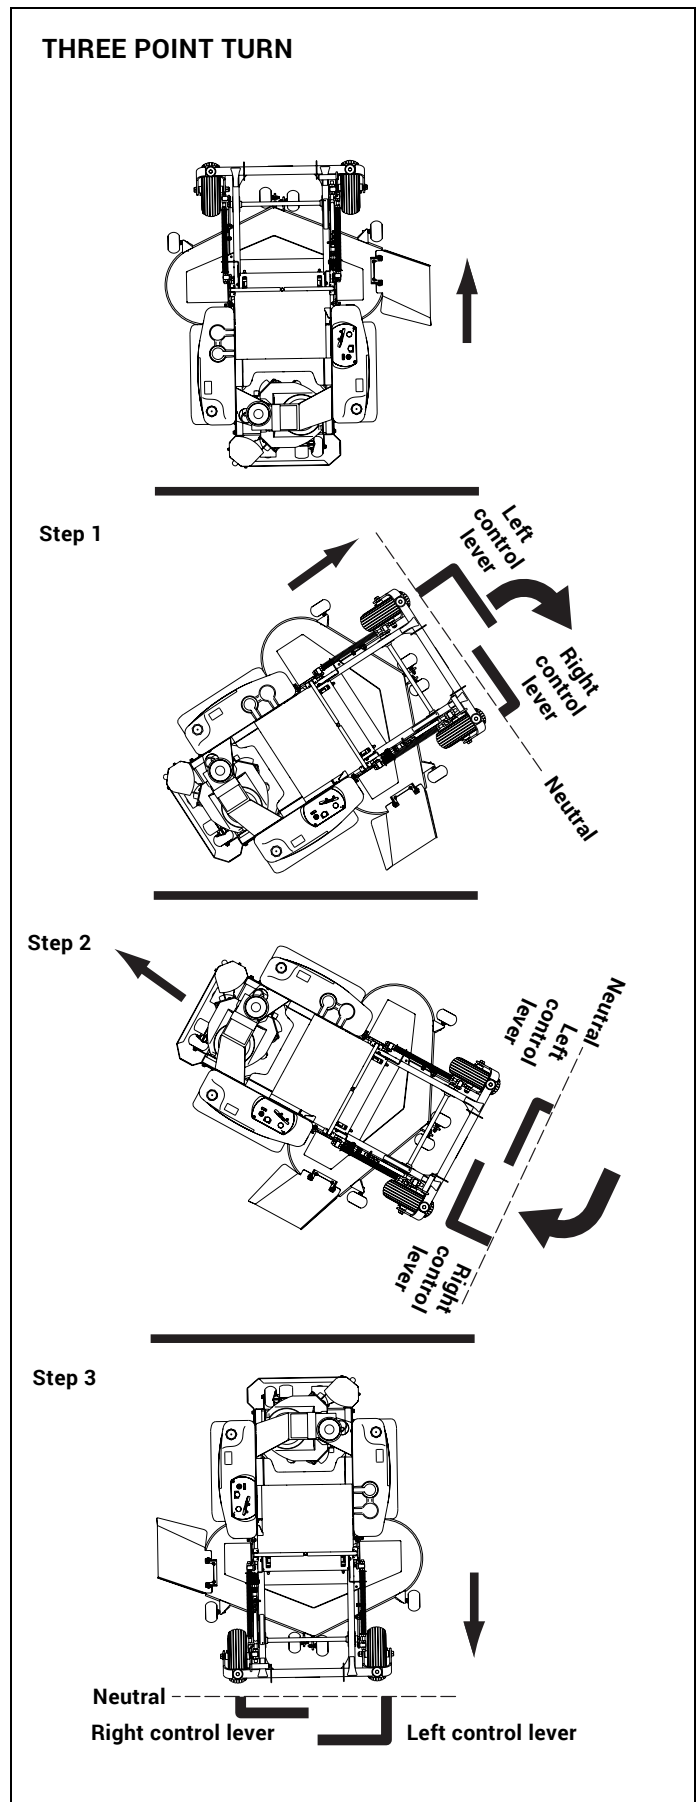

Figure 3-9
1. Move the left steering control lever farther forward from neutral than the right steering control lever and start the turn. Figure 3-9
2. Next, pull back on the steering control levers until they pass neutral and the machine starts to go rearward. Figure 3-9
3. Pull the right steering control lever farther rearward from neutral than the left steering control lever until the rear of the machine pivots around. Figure 3-9
4. Then, push the steering control levers forward until they both pass neutral and the machine starts to go forward. Figure 3-9
5. Push the left steering control lever farther forward from neutral than the right steering control lever and finish the turn. Figure 3-9